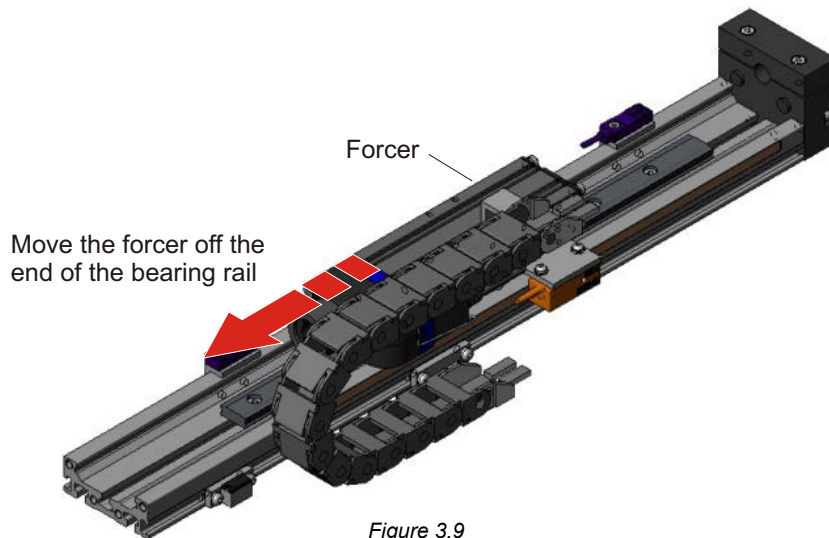

Figure 3.9
- Remove the forcer by sliding it off the bearing rail, Figure 3.9. Take care to keep the forcer square to the bearing rail so that balls are not lost from the re-circulating bearing carriage. If balls do fall out they can be re-inserted into the carriage. Push the ball bearings using a small screwdriver into the end of the re-circulating path at the plastic end plates on the carriage.